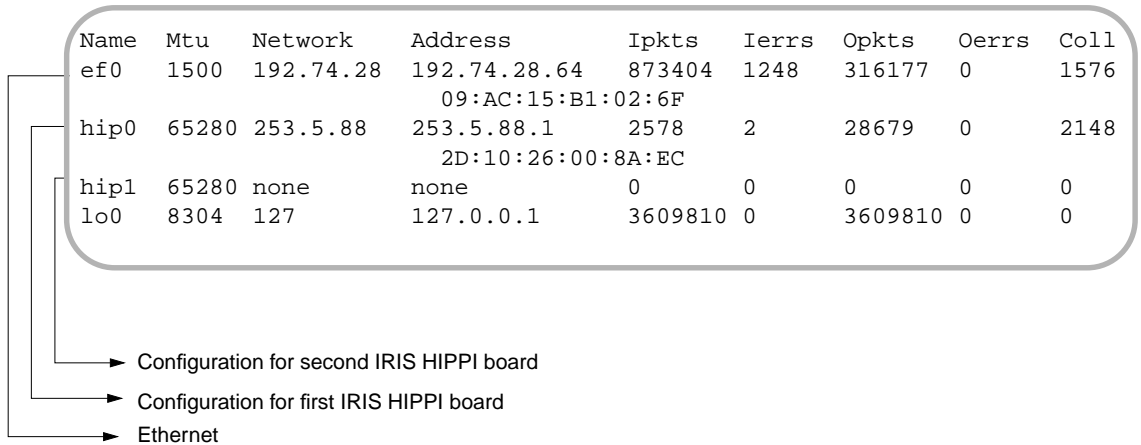

Figure 3-4 The `/usr/etc/netstat -ina` Display
1. Obtain the IP network addresses for all the IRIS HIPPI boards on this system. This information can be displayed with the *netstat* command shown below, or with *hipmap -a*. The network address is listed in the column labelled *Network*, as illustrated in Figure 3-4.
where `hip#_networkaddress` values are the addresses from the `Network` column of the `netstat` display (illustrated in Figure 3-4).